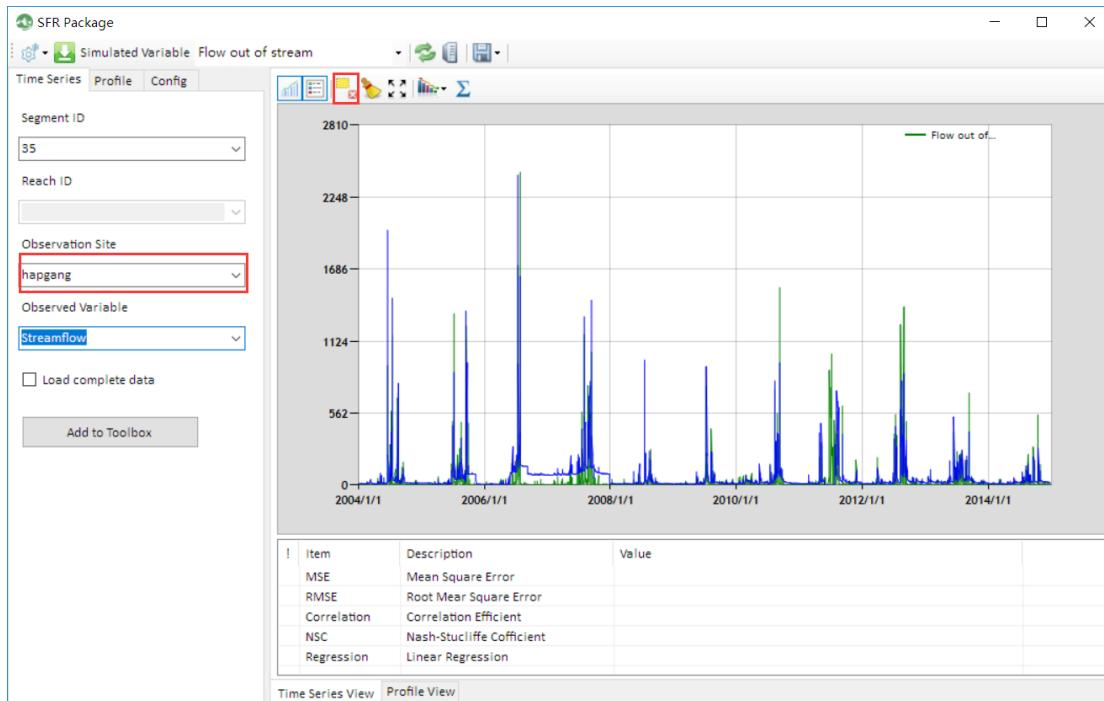

Figure 8-3. Comparison of simulated and observed daily streamflow at the Hapgang gauging station.
- 5) Uncheck  (Clear existed series) in the figure panel. Select “hapgang” from the Observation Site dropdown list. Then the observed streamflow will also be presented in the figure (Figure 8-3).